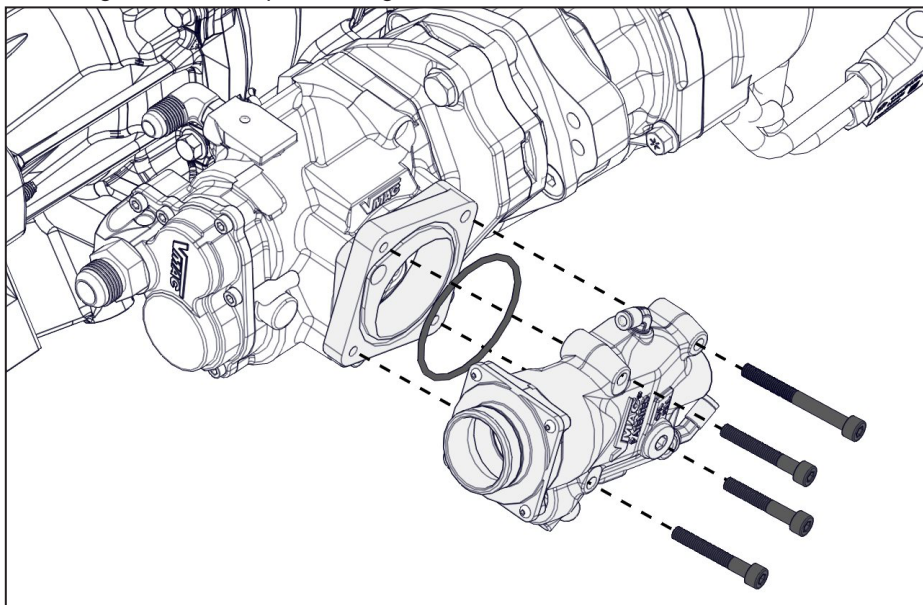

Figure 16 — Install inlet
- Remove the covering from the compressor opening and reinstall the inlet and O-ring onto the compressor (Figure 16).